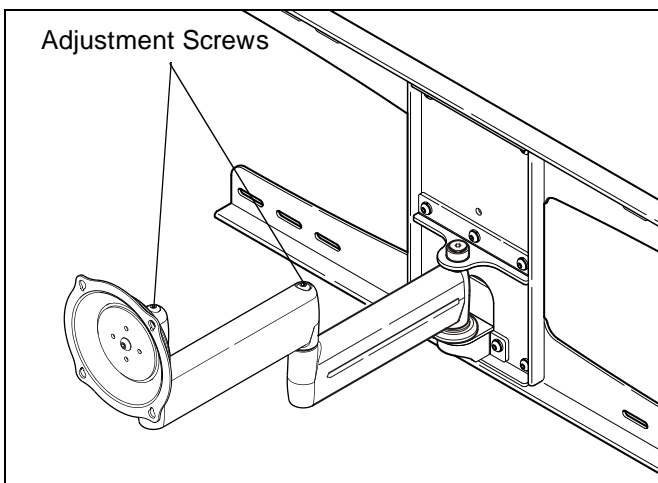

Figure 13
- Using 3/16" hex key, slightly loosen or tighten the adjustment screw(s) as necessary (See Figure 13).